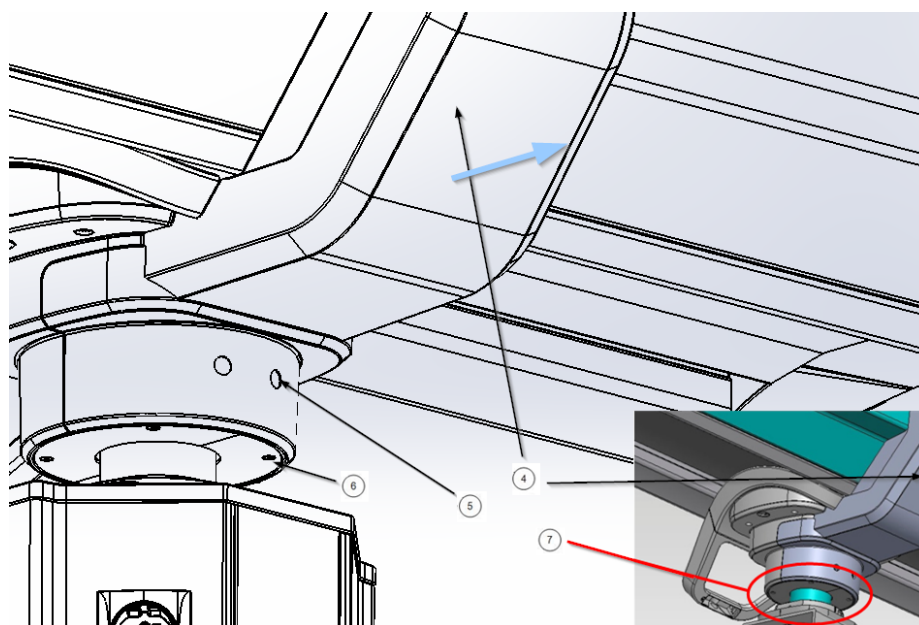

Fig.11 Rear trim removal
- Unscrew the Allen screws ⑥ securing the trim plates ⑦ and the Allen screws securing the lower part of the rear trim as shown in figure 11.
- Remove the rear trim ④.